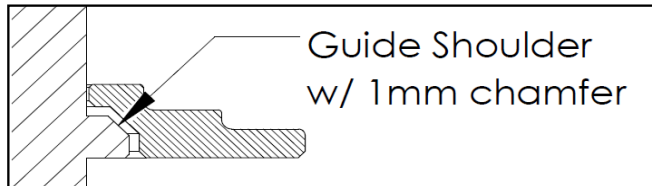

Figure 2) newer style KPMI guide compatibility
**Note 3: VALVE GUIDE COMPATIBILITY.** This system is designed to be run with KPMI’s newer style valve guides, which are shortened for 0.675” valve lift and can be identified with a large 1mm wide chamfer on the top of the shoulder (See Figure 2). The system is NOT compatible with older style KPMI guides. The system can also be run with the OEM guide but with reduced lift capacity due to higher guide heights. The OEM snap ring MUST be removed prior to installation.
1. In Figure 2 the installed height is measured from where the Outer Spring contacts the Retainer and the Basewasher. This measurement is taken when the Valve, Basewasher, Retainer, and Keepers are assembled in the cylinder head.